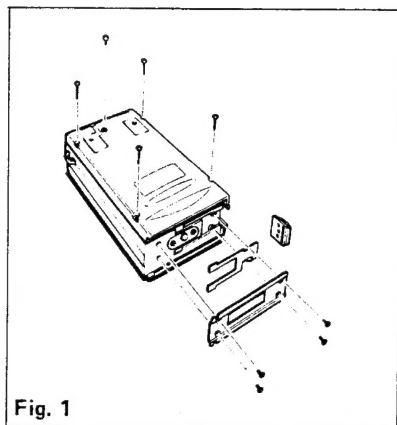

Fig. 1
- 1) Remove the front and rear covers of the transceiver. (Fig. 1 and 2)